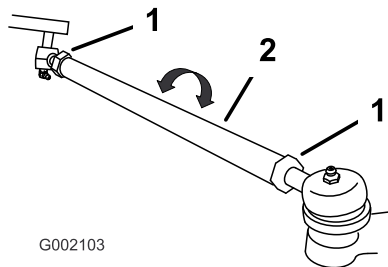

Figure 40
4. If the measurement does not fall within 0-1/4 inch (0-6 mm), loosen the jam nuts at both ends of the tie rods (Figure 40).